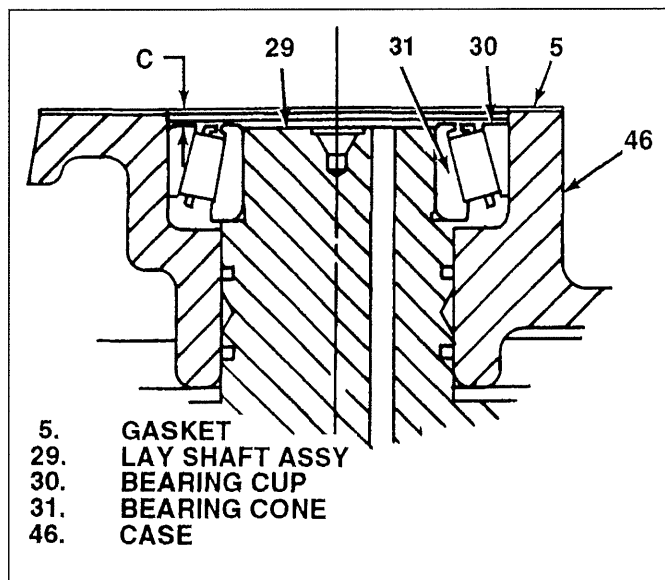

Figure 5-22: Determining Lay Shaft Bearing Shims Thickness
1. Install bearing cone (31) and bearing cup (30). Position new gasket (5) on pump mounting face of case (46) and determine thickness of shim(s) (6) to be used at lay shaft bearing as follows:
a. Push down firmly on lay shaft assembly (29) and bearing cup (30) (see figure 5-22) to make sure parts are seated.
b. Measure and record dimension C as shown in figure 5-22 [from top face of gasket (5) to top face of bearing cup (30)].
c. Calculate T_1 , the thickness of shims(s) (6) required at lay shaft bearing, as follows: